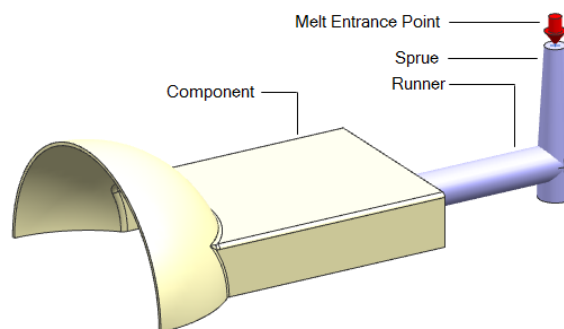

Figure 16-77 The runner and sprue with model
- c. Create runner and sprue for analyzing the model, refer to Figure 16-77.
The gate, runner, and sprue are now attached to the model, refer to Figure 16-77.